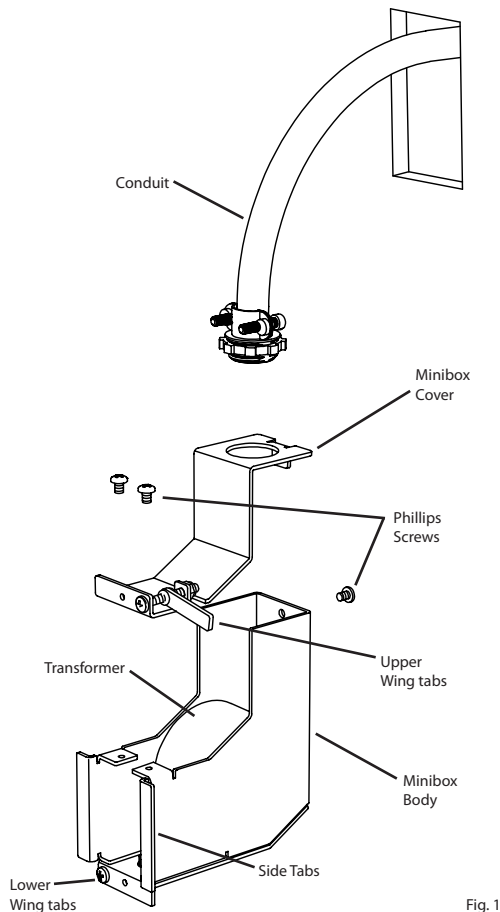

Fig. 1
3. Cut an opening in the mounting surface (minimum 3/8" thick) that measures 1.5" wide by 2.75" high (Fig. 1).
4. Pull 1/2 trade size **flexible metal conduit or building cable** through the opening (Fig. 1).
5. Remove the three **Phillips screws** and separate the **Minibox** into **upper and lower halves** (Fig. 1).
6. Remove the knockout tab from the **Upper Half** and attach the **Cable/Conduit** to the knockout opening using appropriate connectors (Note: Cable/Conduit and connectors not included) (Fig. 1).
- d. **For 60W and 75W unboxed Transformers only:** Carefully place connections and Transformer in lower half, with the connections in the section near the knockout (Fig. 1).
9. Reattach **Mini Box Cover and Body** by installing the three Phillips screws removed previously (Fig. 1).
10. Loosen the two **Mounting Screws** on the front face of the **Minibox** until the gap between the wing tabs and the side tabs is greater than the thickness of the mounting surface (Fig. 1).